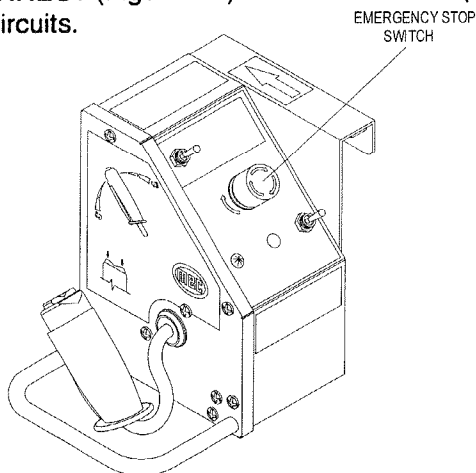
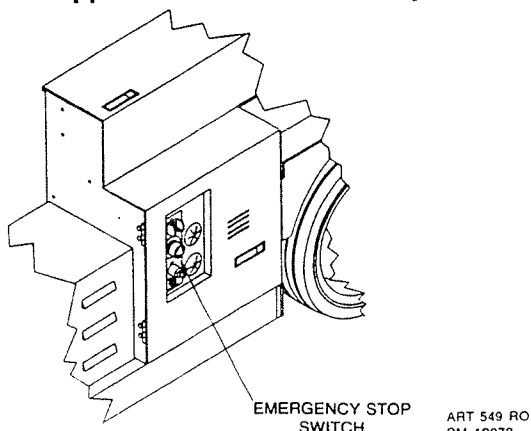

Figure 1-1. Emergency Stop - Upper Control Box Assembly
Figure 1-2. Emergency Stop - Lower Control Panel
The Emergency Stop is a plunger type switch and is located in two places - on the upper control box assembly (Figure 1-1) on the platform and on the lower control panel (Figure 1-2) on the side of machine. The Emergency Stop is actuated by depressing the red cap which de-energizes power supplied to the control electrical circuits. To reactivate the circuits, turn the red cap approximately a quarter-turn clockwise until the cap "pops" back out. Another means to effect an emergency stop is to pull out the BATTERY DISCONNECT (Figure 4-5) which removes all power to the circuits.
6. Reset both EMERGENCY STOP switches (Figures 1-1 and 1-2).